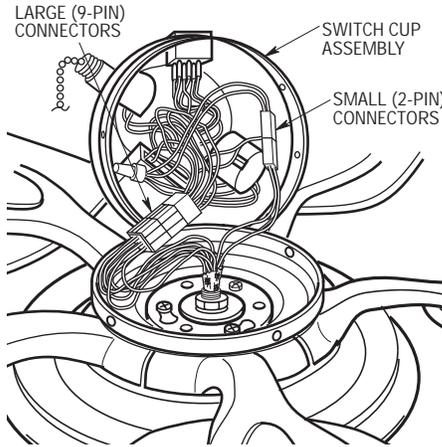

Figure 4
- 9. Carefully rest the switch cup assembly on the fan blades, then engage the large (9-pin) connector of the switch cup assembly with the large motor connector (Figure 4). Connect the small (2-pin) connector of the switch cup assembly with the small motor connector. The two connectors are keyed and color-coded and must be mated correctly (color-to-color) before they can be engaged. Make sure the latches are engaged properly.